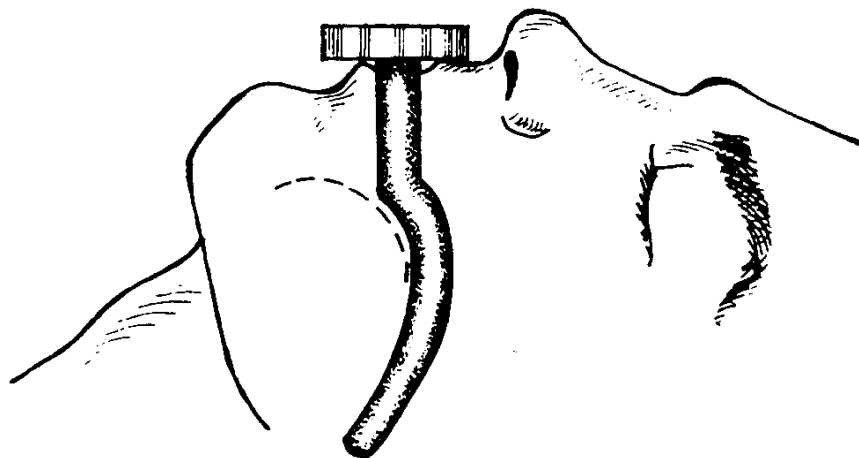

Figure 2-6. J-tube in place.
(5) Gently advance the airway and adjust it so the flange rests on the patient's lips. If the flange of the airway does not seat properly or if the patient begins to gag or vomit, the airway may be the wrong size. The tip of the airway should rest just above the epiglottis (figure 2-6).